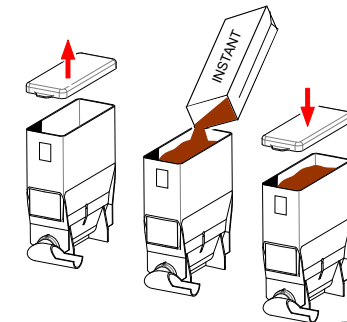

Fig. 16
4. Fill the canister(s) with the appropriate products (fig. 16). See table 7, 8 or 9.